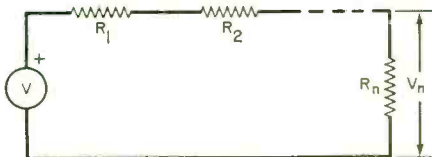

Fig. 17
A. Voltage Divider. An example of a voltage divider is shown in Fig. 17. Since the resistors are connected in series and the same current flows in each, the voltage, V_n , across resistor, R_n , is: $V_n = R_n V / (R_1 + R_2 + \dots + R_n)$. For a series circuit, the voltage